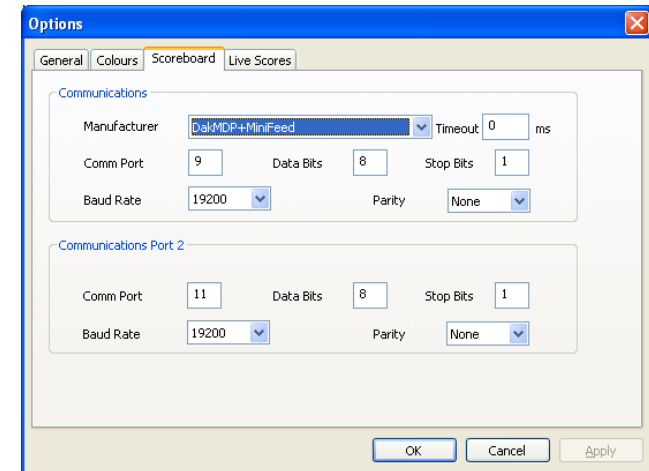

Figure 2
2. Click the **Scoreboard** tab (Figure 2).